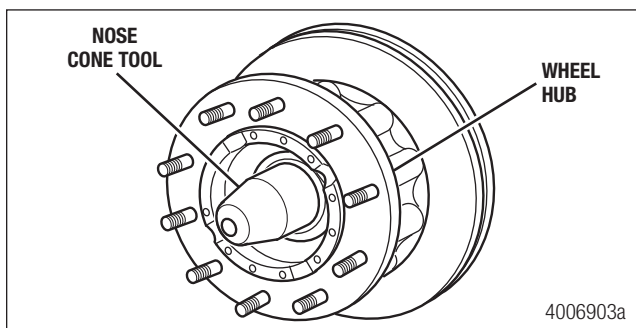

Figure 13.14
9. Install the hub assembly onto the spindle using an appropriate lifting device. Remove the nose cone tool. Verify the inner bearing is flat against the face of the spindle. Figure 13.14.